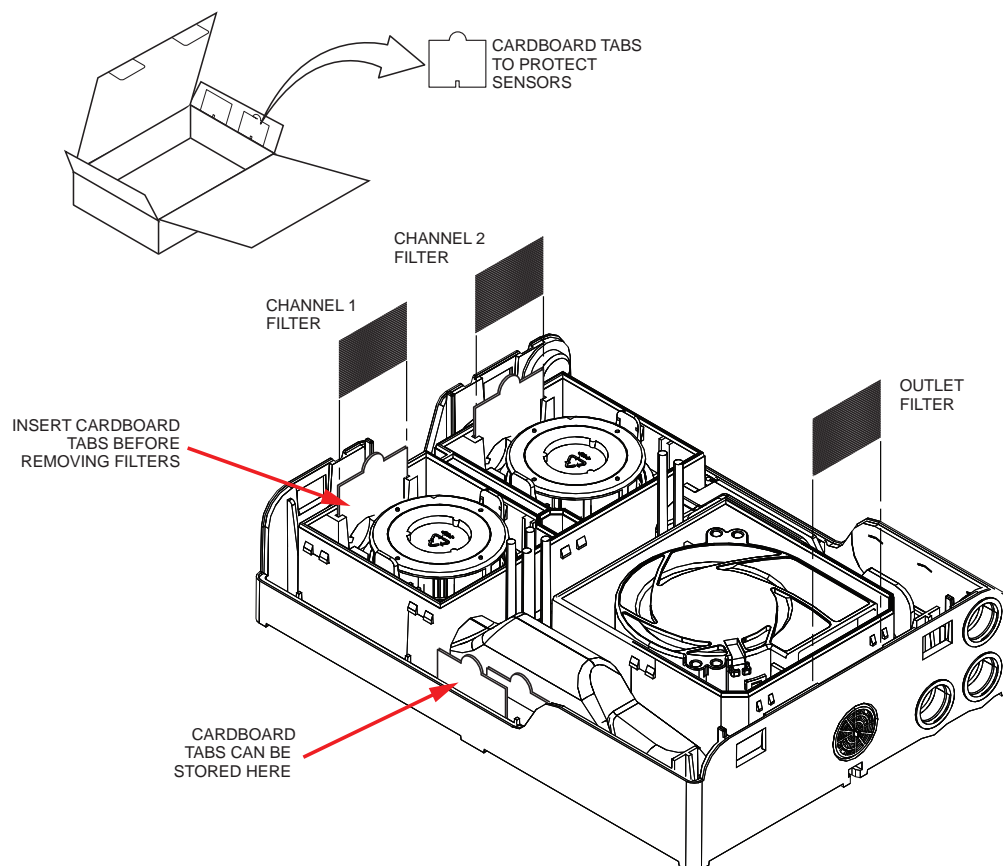

Figure 20-3: Filter Replacement
During maintenance, the sensors should be protected whenever the filters are removed. The shipping box is designed with four cardboard protection tabs that can be removed and inserted in place of the filters to provide protection. See Figure 20-3.
2. Using a small screwdriver, release six locking tabs, and remove Sensor Cover (see Figure 20-3).